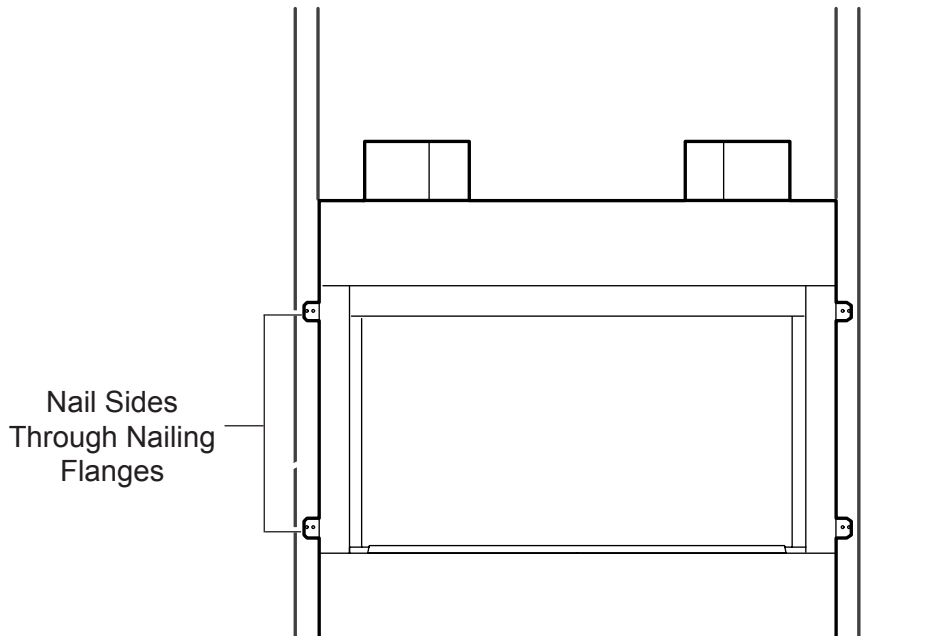

Figure 14 - Location of Nailing Flanges
4. Anchor firebox to the side framing members using 8d nails or other suitable fasteners. See Figure 14.
A canopy is furnished with each firebox and MUST be installed for safe operation. See *Figure 14*.